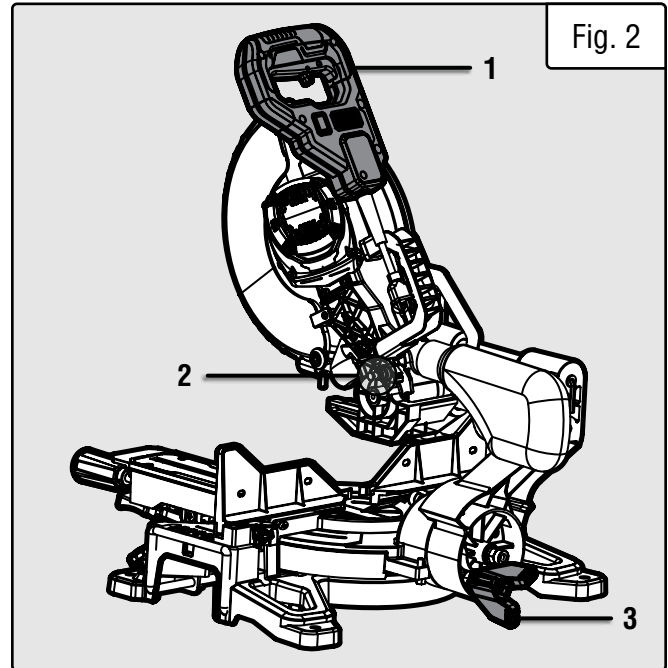

Fig. 2
1. Holding operating handle (Fig. 2 - 1), lightly press down on the saw arm and pull out the release bolt (Fig. 2 - 2).
1. Holding the operating handle (Fig. 2 - 1), pull out the release knob (Fig. 2 - 2).
1. As viewed from the rear of the saw, loosen the bevel lock knob (Fig. 2 - 3) by turning it counterclockwise.
1. Lower the saw arm down to the lower position and lock the release bolt (Fig. 2 - 2).
3. Set the miter scale indicator (Fig. 9 - 2) to 0° and tighten the miter lock knob. Set the bevel angle indicator to 0° (Fig. 10 - 1) and tighten the bevel lock knob (Fig. 2 - 3).